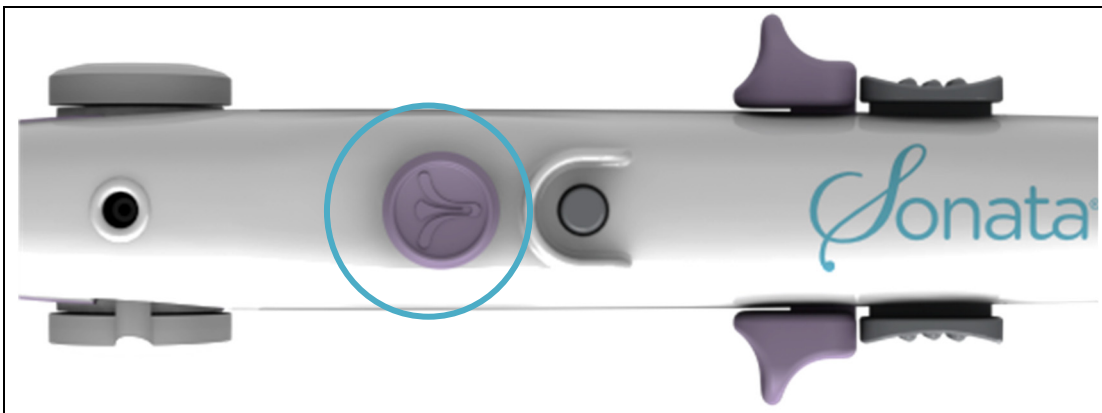

Figure 2-16. SMART Control.
- SMART Control (see Section 2.8.1 and Figure 2-16 ~~Figure 2-16~~),
The SMART Control, see Figure 2-16, allows the Operator to adjust the ablation depth and size using the SMART Guide when targeting a fibroid. The Operator moves the SMART Control forward and back to adjust the depth of the SMART Guide. Moving the SMART Control to one side or the other adjusts the size of the SMART Guide, for detailed instructions see 4.4.3. The planned ablation depth and size are displayed on the screen as the Operator adjusts the SMART Control. The SMART Control also functions as a Mouse when the IUUS Probe angle is 0°. The on-screen cursor can be positioned by moving the SMART Control.